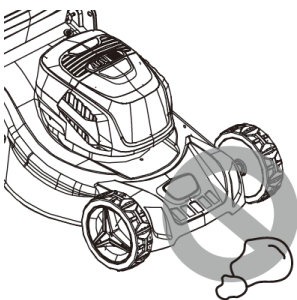

Fig.9A
c) Before mowing, remove all foreign objects from the lawn which may be thrown by the machine. While mowing, stay alert for any foreign objects which may have been missed. (Fig.9A)